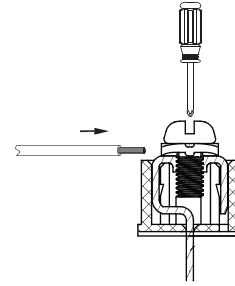

Fig. 39 — Connecting Communication Wire To Outdoor Unit Communication Terminal
3. Use a suitable screwdriver to fix the communication wire on the outdoor unit communication terminal as shown in Fig. 39.